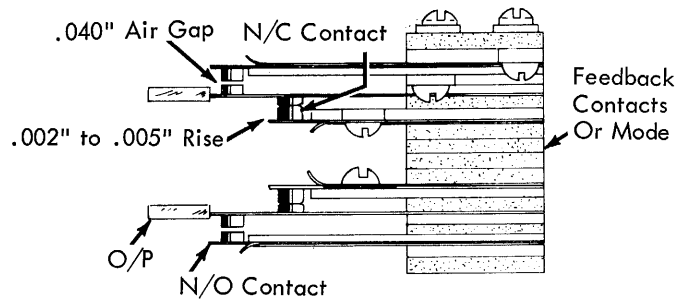

FIGURE 85. Contact Rise and Air Gap
5. Feedback or Mode Contact Rise and Air Gap (Fig. 85) -